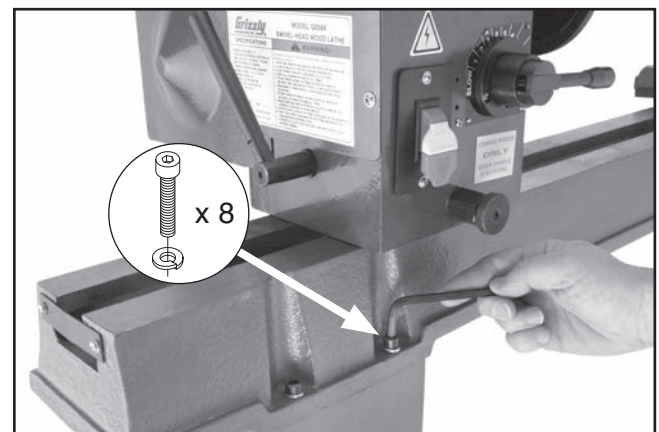

Figure 10. Securing lathe to the stand leg.
3. Secure the lathe to the legs with the (8) M8-1.25 x 35 cap screws and 8mm lock washers, as shown in **Figure 10**.